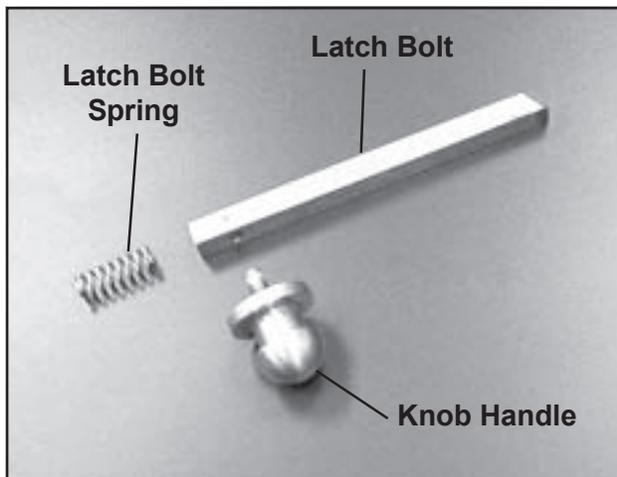

Figure 32. Latch Parts
4. Hold the door so that the hole from which the latch bolt was removed is down, and allow the spring to fall out (Figure 32).